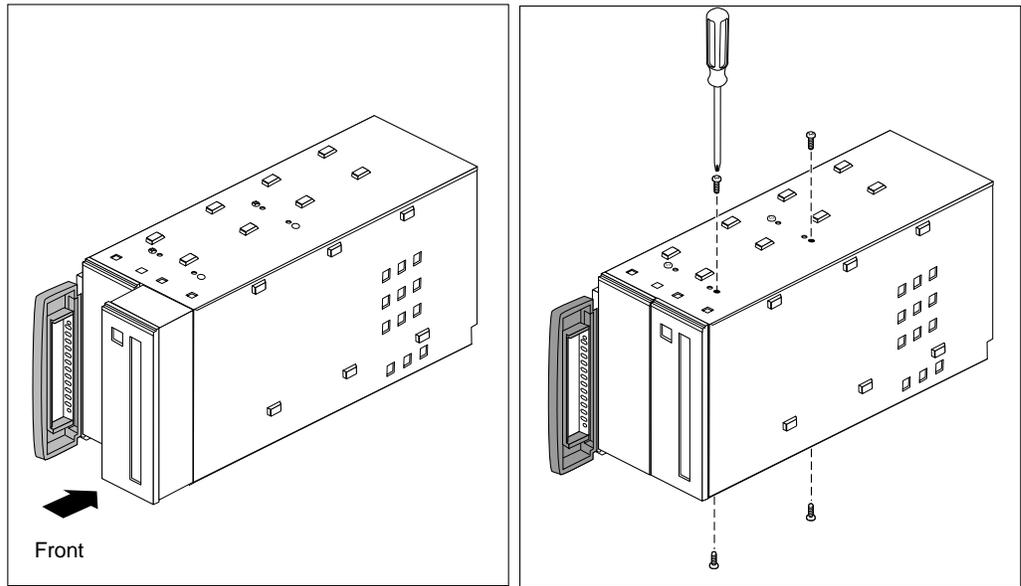

Figure 2-19 Inserting a 5.25-Inch Drive in the Peripheral Carrier
4. Slide the drive into the peripheral carrier and attach it with four screws through the side of the carrier, as shown in Figure 2-19.